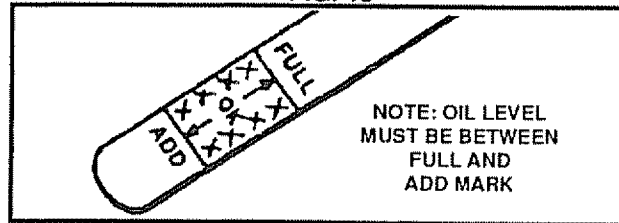

FIG. 19
Check the crankcase oil level (See Fig 19) before starting the engine and after each five (5) hours of continuous use. Add S.A.E. 5W-30 motor oil as needed. Tighten fill cap/dipstick securely each time you check the oil level. S.A.E. 5W-30 motor oil may be used to make starting easier in areas where the temperature is 20° F or lower.